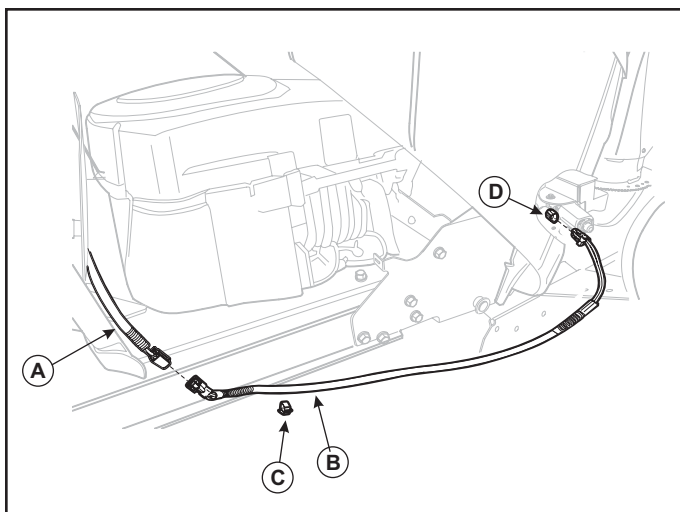

Figure 24. Belt Routing
7. Disconnect the final wiring harness (B, Figure 24).